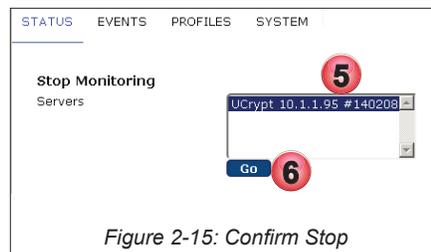

Figure 2-15: Confirm Stop
5. Verify that the correct remote Device or group of Devices is listed for monitoring to be stopped, Figure 2-15.